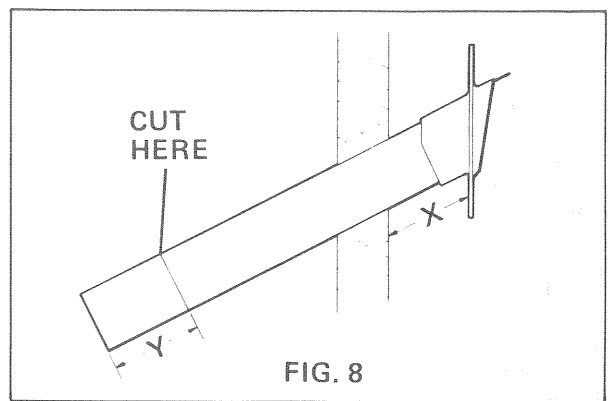

FIG. 8
When the hole has been made, the extension tube (B) must be cut to the appropriate length. To determine this length, push the extension tube fully into the flue outlet (E) so that they fit together. With the refrigerator in position, and the flue-top (A) secured in place on top of the central tube of the boiler by means of the screw H, insert the free end of the extension tube (B) through the wall of the vehicle and over the outlet of the flue-top, as far as it will go. Measure the length 'X' (fig. 8) of the tube protruding from the outside. Transfer this measurement to the other end of the tube as shown at 'Y' (fig. 8) and cut at right angles through the tube at this point.